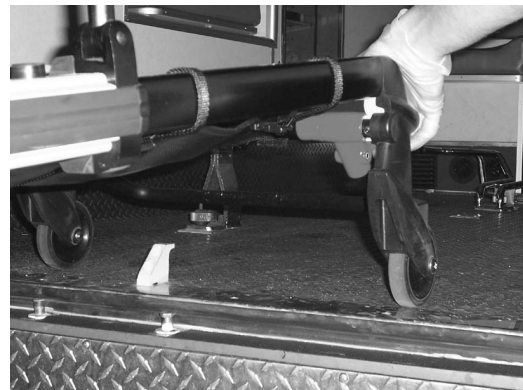

Figure 32: Disengaging the Safety Bar
4. **Operator 2** – Pull the safety bar release lever forward to disengage the safety bar from the safety hook in the patient compartment as shown in Figure 32.